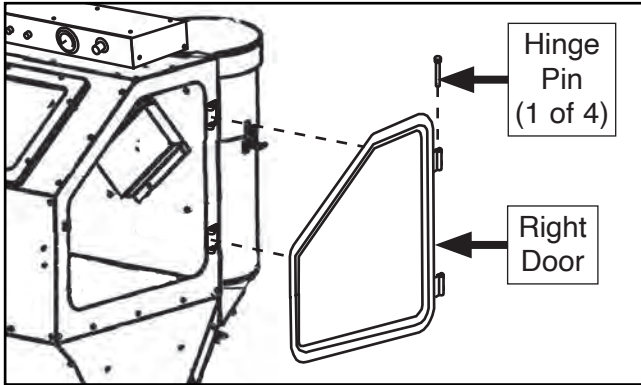

Figure 13. Installing side doors on cabinet.
- Line up welded hinges on side doors with cabinet hinges, then secure doors with (4) door hinge pins (see **Figure 13**).